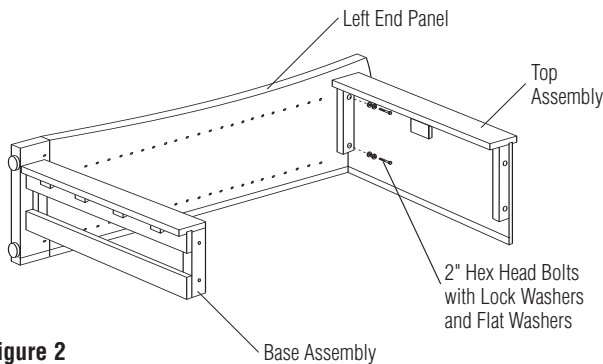

Figure 2
3. Align the side holes in the top assembly with the upper holes in the left end panel (Figure 2). Make sure the faceplate on the top assembly is to the front and that the back panel groove is to the back. Insert 2" hex head bolts with lock washers and flat washers into the top assembly and end panel. Tighten. **Note:** for shelving units 72" and higher, the top shelf assembly should be flipped so that the cleat side faces up.